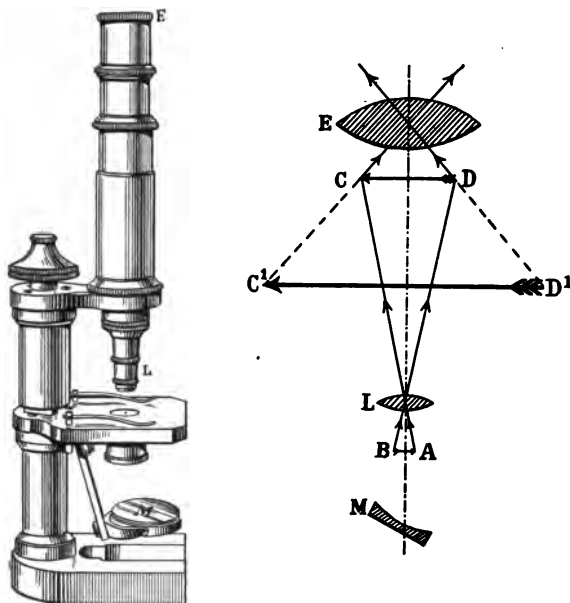

FIG. 436. — Compound microscope.
**458. Compound microscope.** Very small objects are made visible by the **compound microscope**. It consists of *two* lenses or lens systems which are placed at the ends of a tube. The object  $AB$  is put just outside the principal focus of the smaller lens  $L$  (Fig. 436), called the **objective**, which forms an enlarged, real image  $CD$ . This real image is then ex-
8. In a compound microscope the objective lens  $L$  (Fig. 436) has a focal length of one inch and the object  $AB$  is 1.1 inches away. How far from the lens is the image  $CD$ ? How many times is it magnified? If the eyepiece magnifies this image 20 times, what is the magnifying power of the instrument?